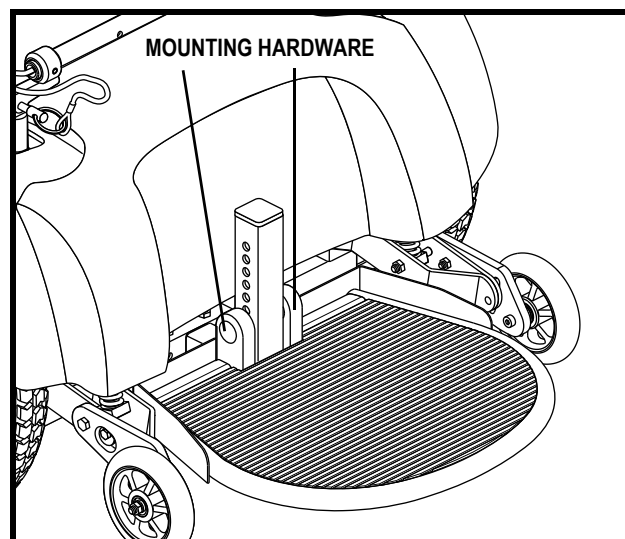

Figure 18. Foot Platform Height
1. Use a hex key to remove the mounting hardware from the foot platform. **See figure 18.**